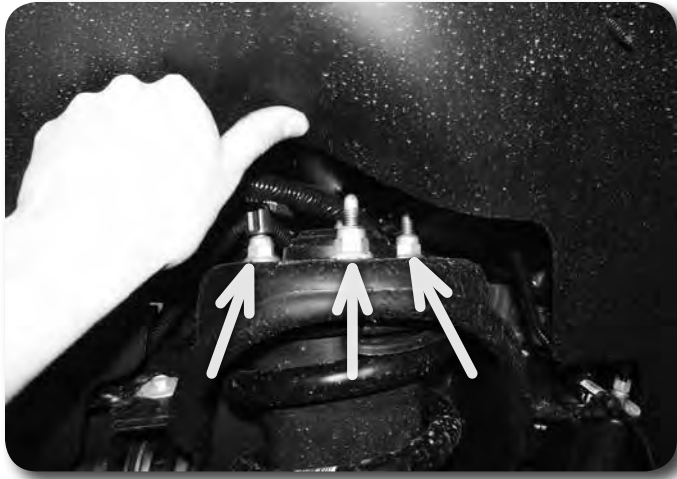

Figure 8
14. Remove the three upper strut mounting nuts **Figure 8** and remove the strut from the vehicle. **DO NOT** remove the center strut rod nut, it is under extreme pressure. Save nuts.